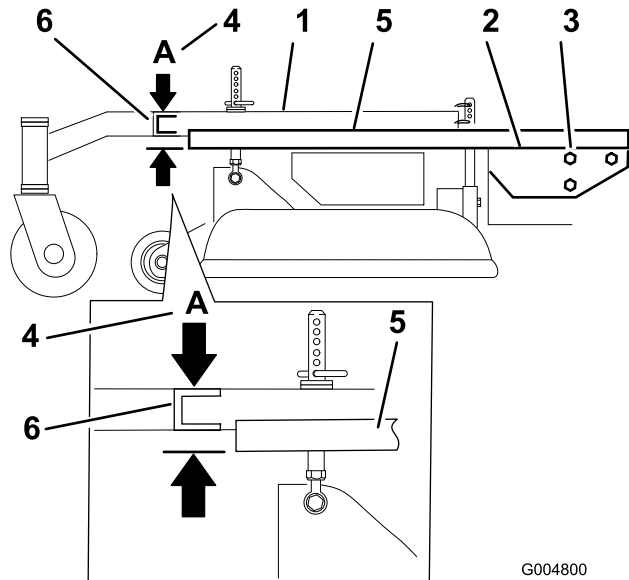

Figure 72
3. Place a long straight edge on top of the engine deck as shown in Figure 72.
4. At the carrier frame cross channel, measure the height at location **A** (Figure 72). This measurement must be 1-5/16 inch (33 mm), plus or minus a 1/4 inch (6 mm).
6. Loosen the carrier frame mounting bolts on both sides of the machine (Figure 72).
7. Align the carrier frame and engine deck to match 1-5/16 inch (33 mm), plus or minus a 1/4 inch (6 mm) at location **A** (Figure 72).